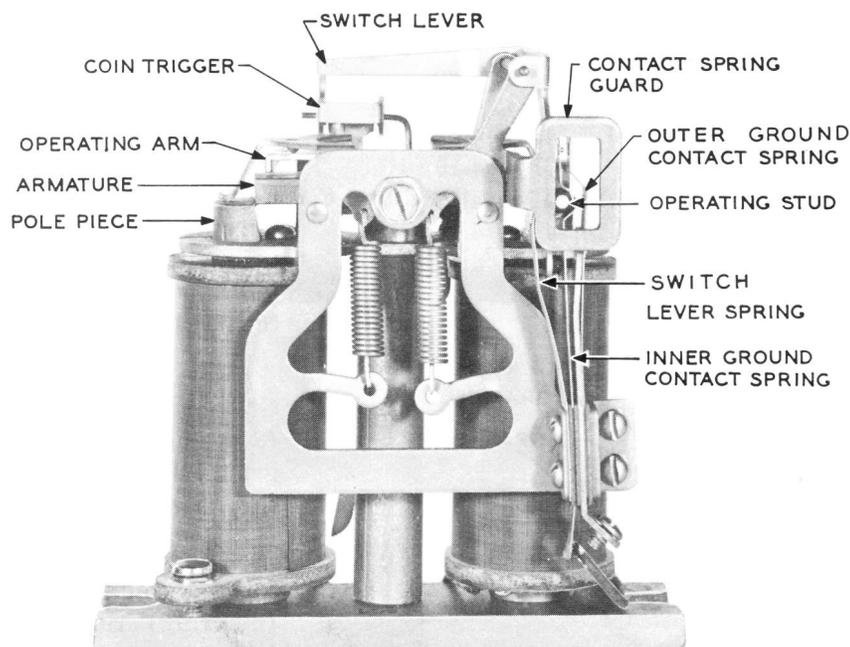

Fig. 1 — P-145749 Coin Relay
**1.01** This section covers specific items of maintenance required for prepay coin collectors arranged for 10-cent operation. These items cover the two-coil coin relay and coin hopper (see Fig. 1 and 2). In addition, see section on general maintenance of coin collectors.